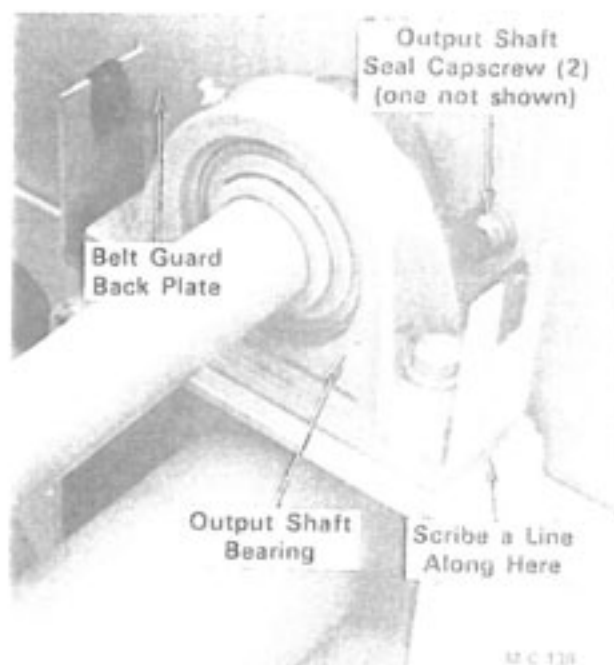

Figure 22
- C. If the pulleys are aligned, scribe a line on the output shaft bearing mounting bracket as shown in Figure 22 to establish the location of the bearing when reassembling.